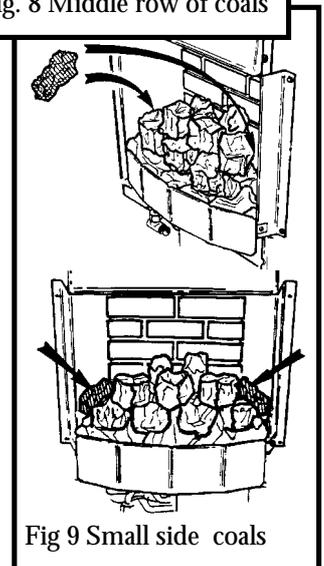

Fig. 9 Small side coals
**4.3** Place the two remaining small coals alongside the main coals (See figure 9)